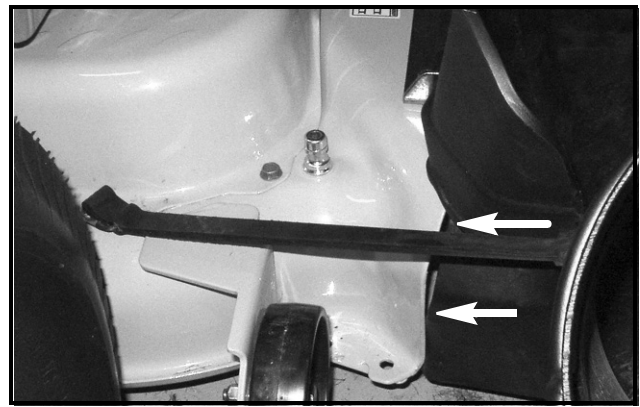

FIGURE 5
10. A length of slip-on seal is provided, Item 2, that may be used to enhance the fit of the bagger's discharge (elbow) chute to the deck at the upper rear corner, see Figure 5. If required proceed to Step 11.
11. With the elbow chute installed as shown in Figure 5, mark on the discharge (elbow) chute the area that the seal needs to fill.